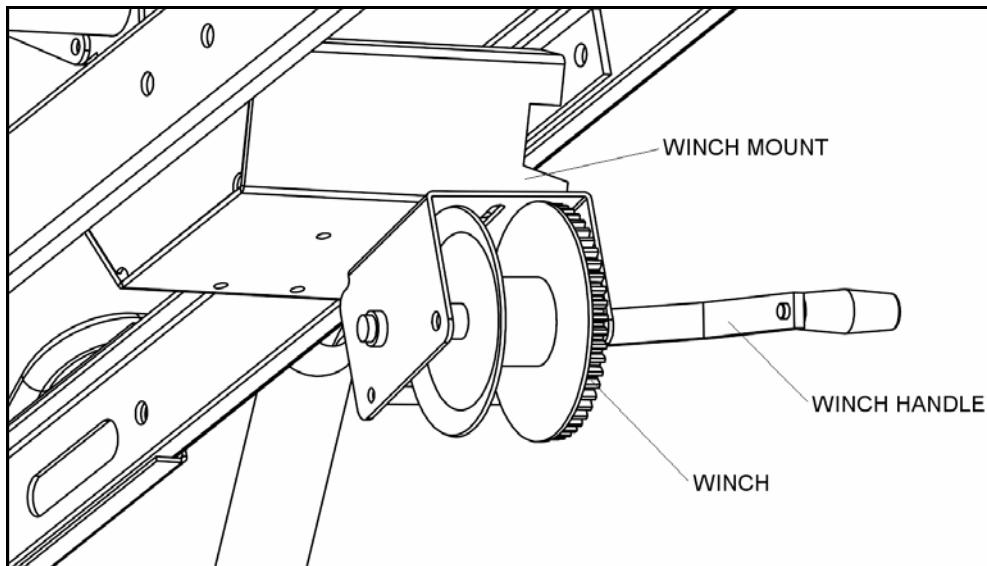

Figure 3.19 Winch Installation
3. Attach winch to mount with three  $3/8" \times 1"$  bolts and locknuts. Use the set of holes shown in Figure 3.19.